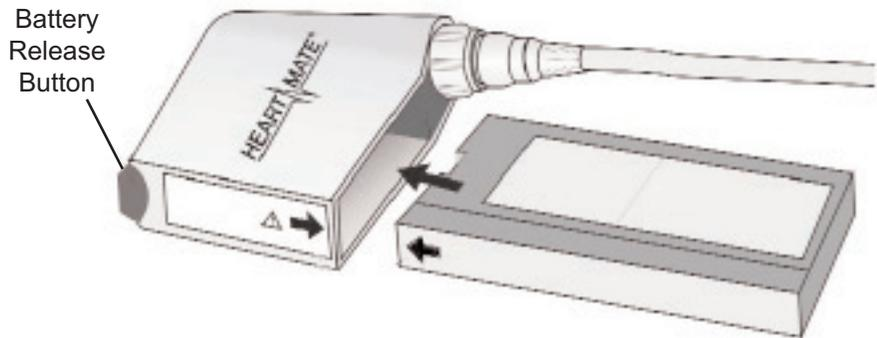

Figure 22 Battery and Battery Clip. Note Location of Release Button on Clip.
- 3 Place the 1st fully-charged battery into a battery clip by aligning the arrows on the battery and clip and pushing the battery into the battery clip until it “clicks” into place (**Figure 22**). Repeat for the 2nd battery/battery clip.